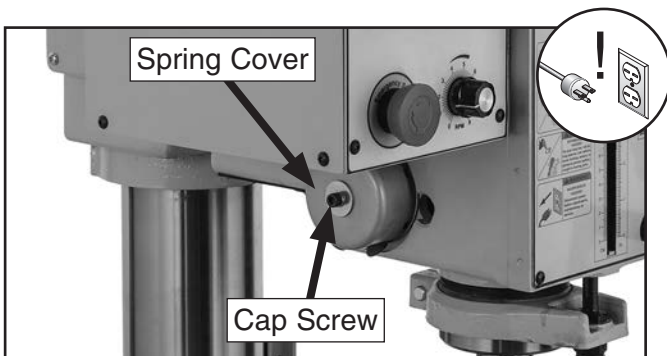

Figure 73. Spring tension components.
3. Loosen cap screw shown in **Figure 73** 2–3 turns (DO NOT completely remove it).